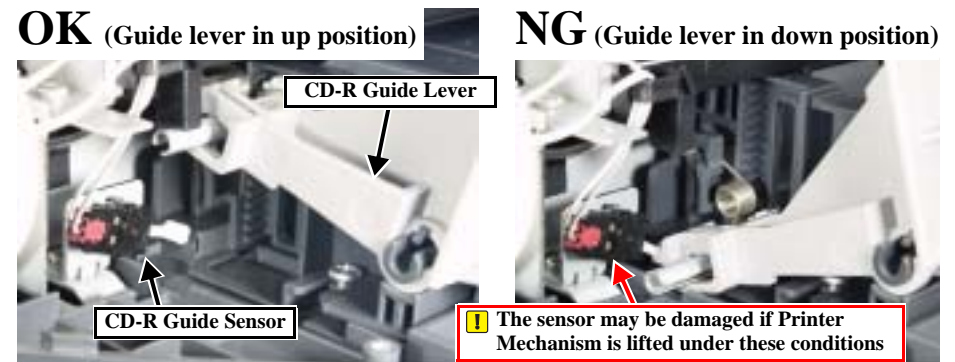

Figure 4-36. CD-R Guide Lever and CD-R Guide Sensor
- Do not remove or install the Printer Mechanism Assy with the CD-R Guide in the lower position; otherwise, CD-R Guide Sensor may be damaged. (Fig. 4-36)